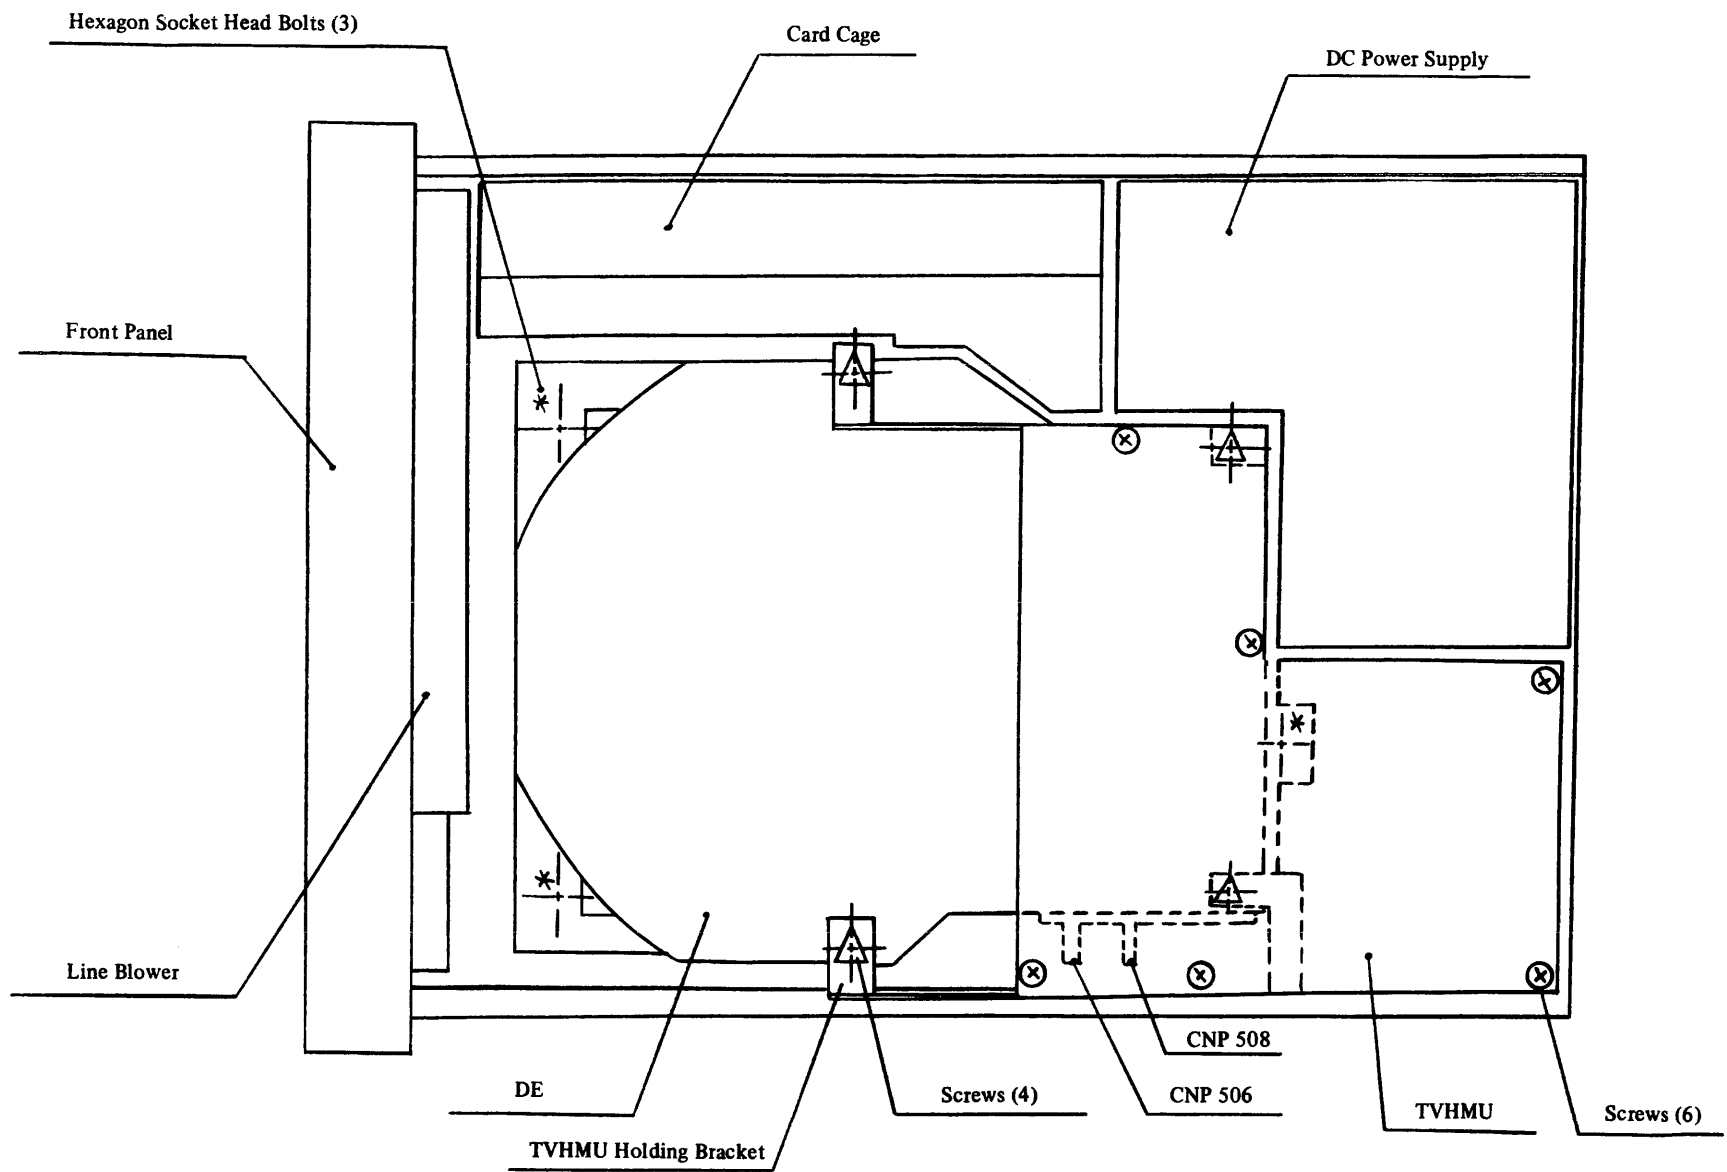

Figure 13.2-1 DE Replacement (Top View) . . . . Early version
4. Remove the 6 screws (Refer to Figure 13.2-1 ~~A~~) holding the TVHMU PCB and remove the entire TVHMU PCB.
5. Remove the 4 screws (Refer to Figure 13.2-1 ~~A~~) holding the TVHMU mounting bracket.
10. Remove the three hexagon socket-head bolts (Refer to Figure 13.2-1,\*) from the shock mounts.
4. Remove the screw (Refer to Figure 13.2-1) and the wire.
9. Remove the three hexagon socket-head bolts (Refer to Figure 13.2-1, \*) from the shock mounts.